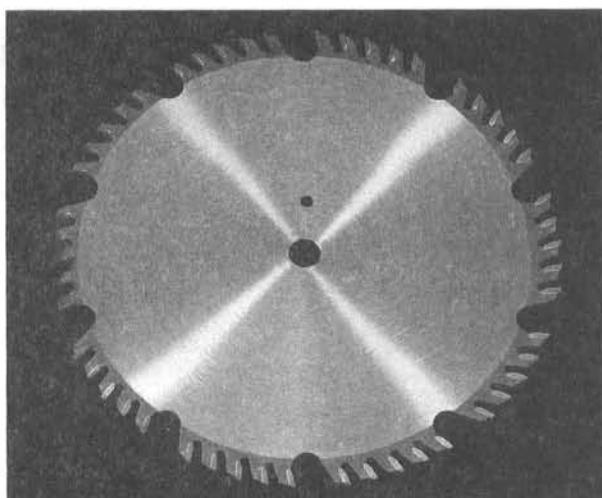

Figure 45.
3. **Combination Blade:** Used for cutting with and across the grain. A compromise between a rip blade and a cross-cut blade, a combination blade will typically have between 40-80 teeth, an alternate top bevel and flat or alternate top bevel and raker tooth profile. The teeth are arranged in groups of five. The gullets are small and shallow within the groups of five, similar to a cross-cut blade, large and deep between the groups, like a ripping blade. **Figure 45.**